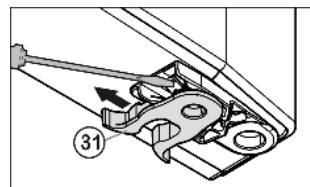

Fig. 8
- ▶ Transfer the spring clamp Fig. 8 (31): Depress the latch nose and pull the spring clamp off over it.